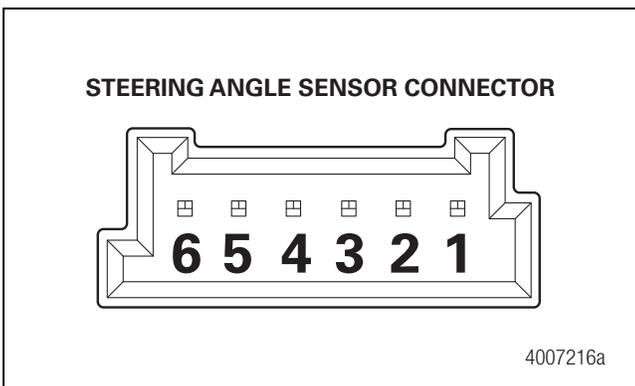

Figure 3.41
- Take measurements at the SAS harness connector side. Figure 3.41.